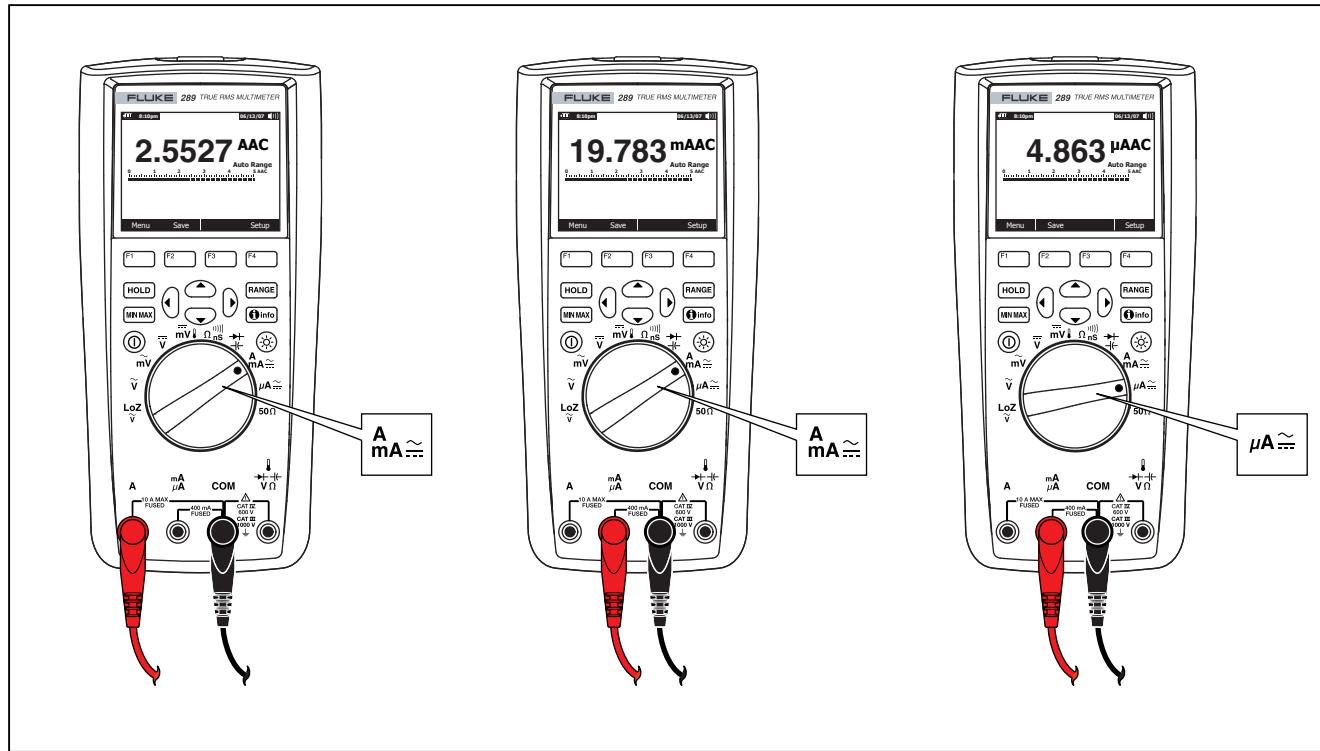

Figure 21. Current Measurement Setup
3. If you are using the A terminal, set the rotary switch to  $\text{A} \frac{~}{\sim}$ . If you are using the mA/µA terminal, set the rotary switch to  $\mu\text{A} \frac{~}{\sim}$  for currents below 5000 µA (5 mA), or  $\text{mA} \frac{~}{\sim}$  for currents above 5000 µA. See Figure 21 for test lead connections and function selection. Refer to the "Input Alert Feature" section for information on the alerts the Meter uses when leads are not used correctly for current measurements.